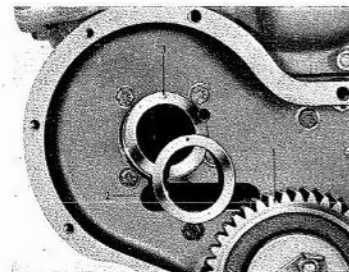

Fig. M.10.
1. Ensure that the camshaft thrust washer is correctly located in the cylinder block, the dowel in the block fitting in the corresponding hole in the thrust washer. See Fig. M.10.
The camshaft end float is taken up by a boss on the timing case cover and a thrust washer in the cylinder block. Access to the thrust washer is gained by removing the camshaft. The thrust washer may then be removed from its locating dowel (Fig. M.10).